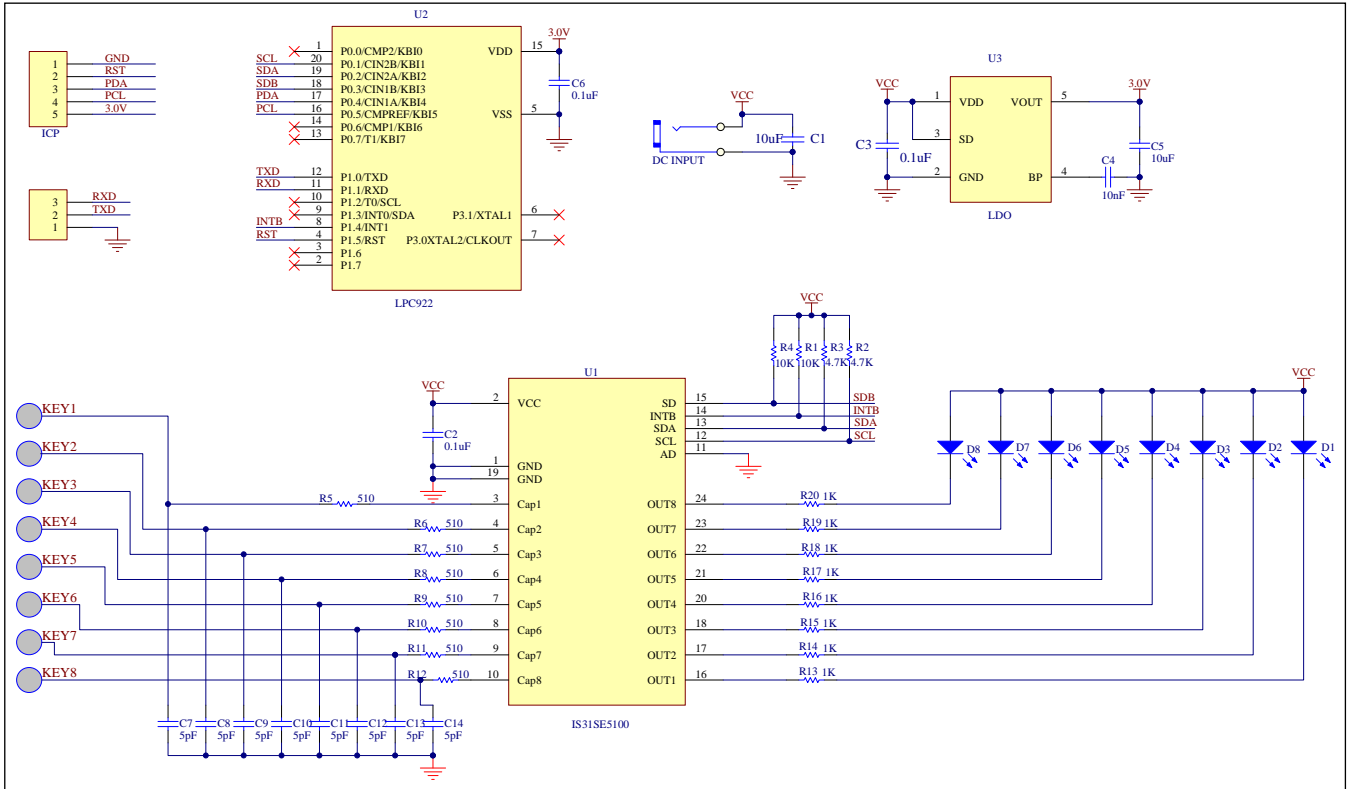

Figure 3: IS31SE5100 Application Schematic
*Bill of Materials, refer to Figure 3 above.*